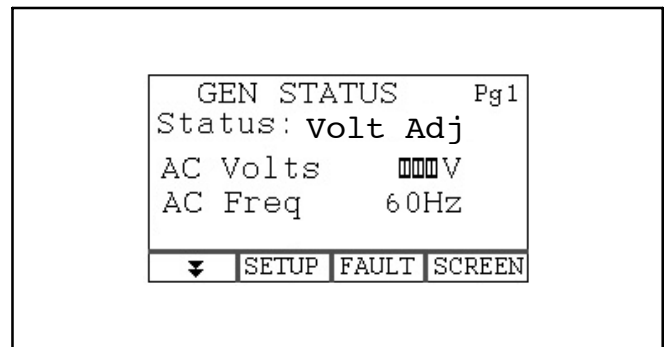

FIGURE 8-3. VOLTAGE ADJUSTMENT SCREEN
Note:The GEN STATUS screen will not display AC Voltage while the genset is in voltage adjust mode. The line for displaying the voltage is filled in as shown in Figure 8-3. A separate voltmeter is required for voltage adjustment.
2. Rapidly press **START** 6 times *during the first minute after startup* to put the genset controller into *voltage adjust mode*. The green status lamp will blink rapidly and the Display will indicate a Status change from *Running* to *Volt Adj* (Figure 8-3).